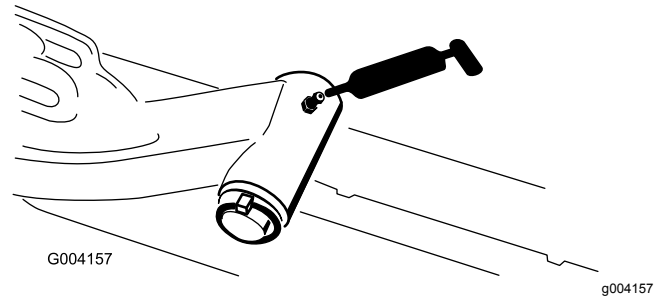

Figure 39
- Lift-arm pivot shaft (1 each) (Figure 39)